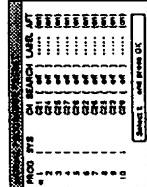

Fig. 21.
- The MANUAL PROGRAMME PRESET menu appears. (See Fig. 21.)